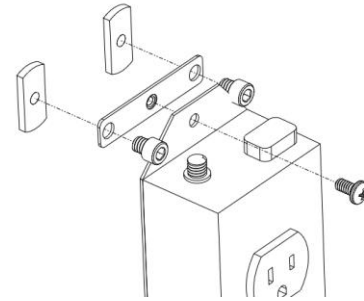

Figure 4: Mounting Accessory Bracket.
5. Mount the accessory bracket to either end of the item using the provided #10-24 screws. Loosely connect the socket cap screws and the T-nuts, such that they will be able to slide down the channels found on the column of the cart. See Figure 4.